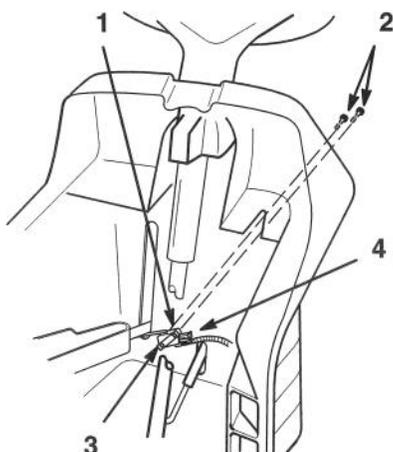

Figure 4
9. Position new blade control switch **WITHOUT DUST BOOT** in location of previously removed switch. Switch arm must be below blade control lever. Secure with new screws and Tinnerman nut (Fig. 4).
10. Push wire harness connector onto switch terminals (Fig. 4).